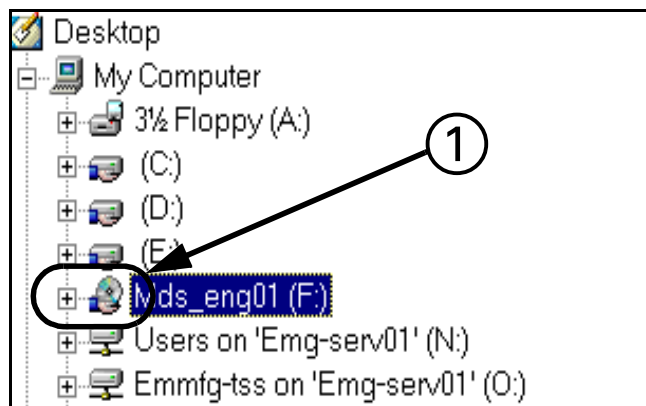

Figure 8-8 Windows Explorer
- 4) Verify that there is a hand shown below the CDROM icon (see ① in Figure 8-8).